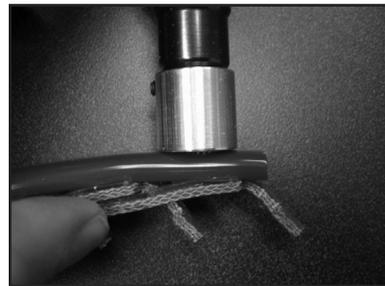

Fig. 4
- 6 Insert the $\frac{1}{4}$ " countersink burr into the high speed rotary tool. Place the countersink burr into the pilot hole in the cushion top to form the countersink. When the stop on the burr bottoms against the cushion top, quickly remove the burr as the countersink has now been formed. Repeat on second endpiece. See Figure 4.